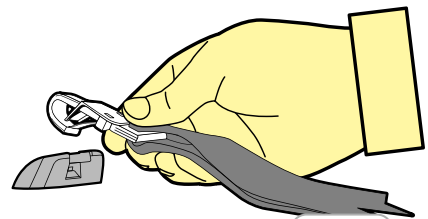

Figure 7
**Step 6:** Hook the attachment clip to the upper anchor fitting (refer Figure 7).